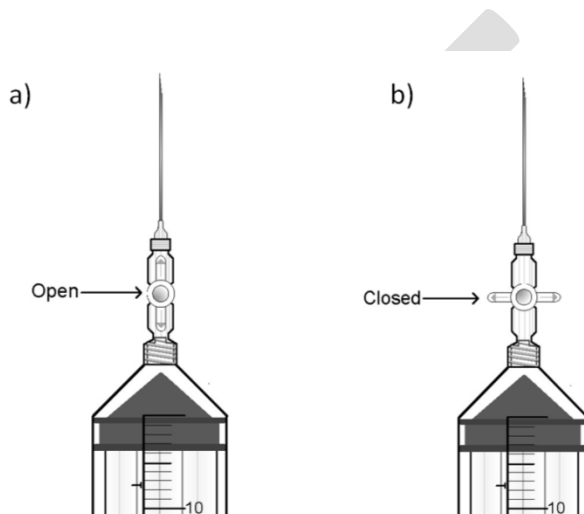

Figure 10. Example of a syringe with a stopcock with attached needles in the a) “Open” and b) “Closed” positions.
- e. With stopcock still ‘open’ and syringe held upright, insert the needle through the rubber septum of the gas vial (Figure 10 and 11) and push gas into the vial. Properly evacuated vials will automatically suck in the gas. Push as much gas in as possible.